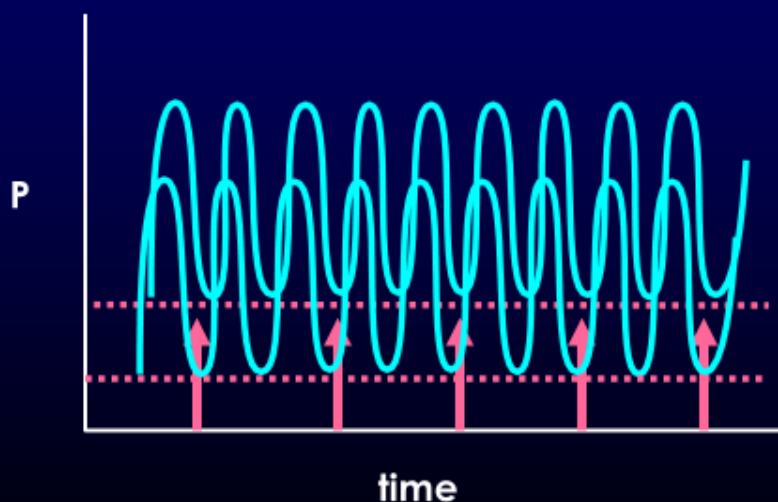

Figure 1: Oscillatory waveform above and below MAP. "PEEP" is the lowest point in the waveform (2)
- 1 *Figures 1 and 2 courtesy of Bunnell Inc.*